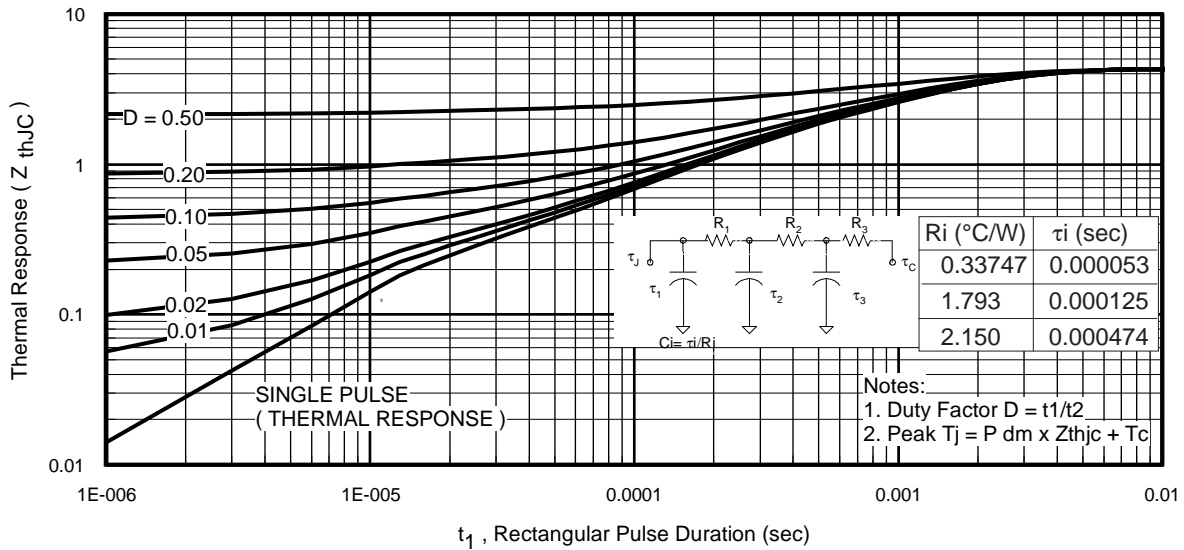

Fig 11. Maximum Effective Transient Thermal Impedance, Junction-to-Case
$Z_{thJC}(D, t_{av})$ = Transient thermal resistance, see figure 11)
- ① Repetitive rating; pulse width limited by max. junction temperature. (See fig. 11).
- ② Limited by T_{Jmax} , starting $T_J = 25^\circ\text{C}$, $L = 1.29\text{mH}$, $R_G = 25\Omega$, $I_{AS} = 5.2\text{A}$, $V_{GS} = 10\text{V}$. Part not recommended for use above this value.
- ③ Pulse width $\leq 1.0\text{ms}$; duty cycle $\leq 2\%$.
- ④ C_{OSS} eff. is a fixed capacitance that gives the same charging time as C_{OSS} while V_{DS} is rising from 0 to 80% V_{DSS} .